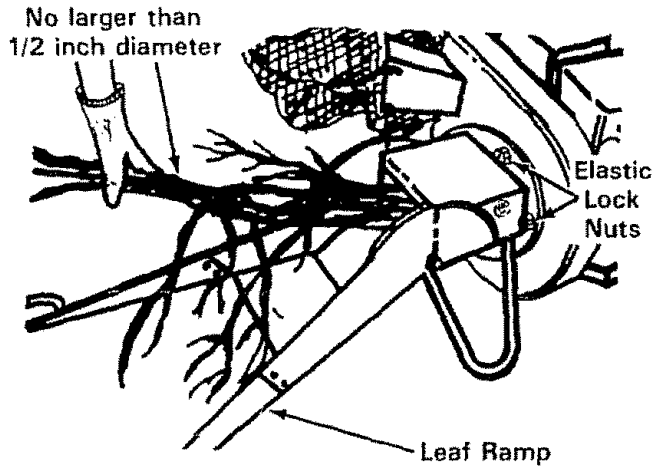

FIGURE 14.
Small branches can also be fed into the leaf ramp. See figure 14.
3. Remove the four elastic lock nuts from the back of the housing using a 1/2" wrench. Refer to figure 14. Separate the shredder into two halves.